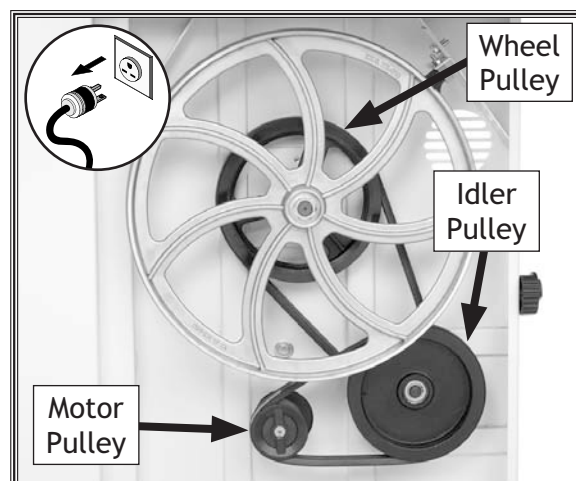

Figure 49. Pulleys and V-belts.
3. Remove the lower wheel by removing the hex bolt at the center of the wheel, then sliding the wheel off the shaft. (The hex nut has left handed threads, so you must turn it clockwise to loosen it.) You now have access to the V-belts for inspection or service (see Figure 49).